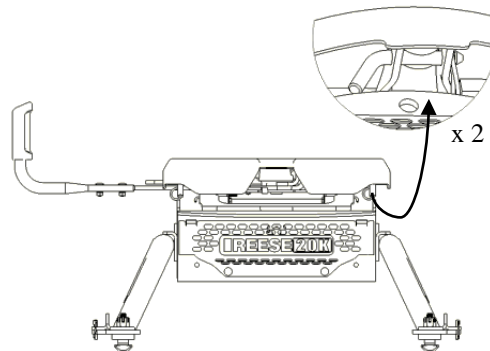

FIG. 5
2. Insert pull pin as shown in figure 5, and secure with spring clips. Both sides required.